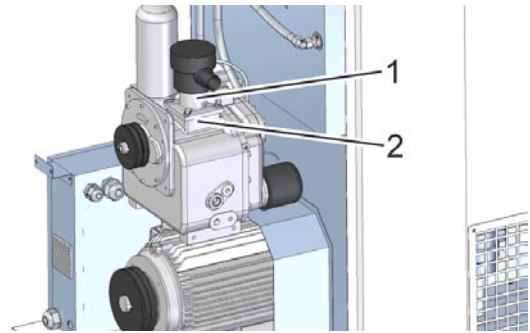

Fig. 26: Intake valve fastening screw
1. Unfasten the fastening screws on the intake valve (Fig. 26/1).
4. Re-fit the intake valve and tighten the screws (Fig. 26/1).